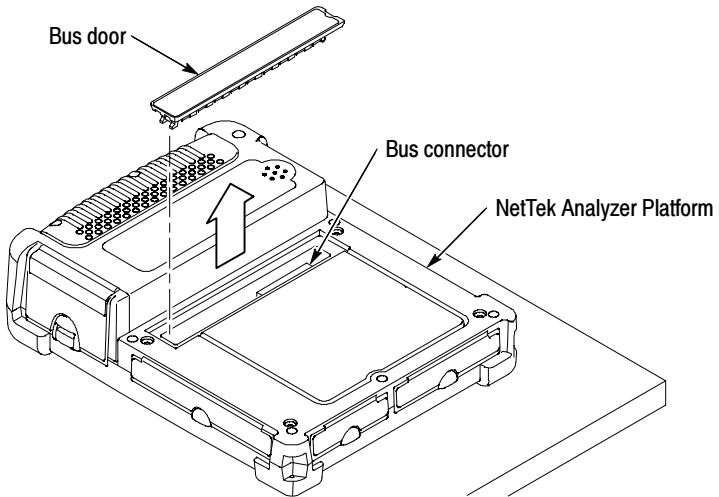

**Figure 1-1: Removing the bus door**
4. Remove the bus door from the rear of the NetTek Analyzer Platform or instrument module. See Figure 1-1 or 1-2.